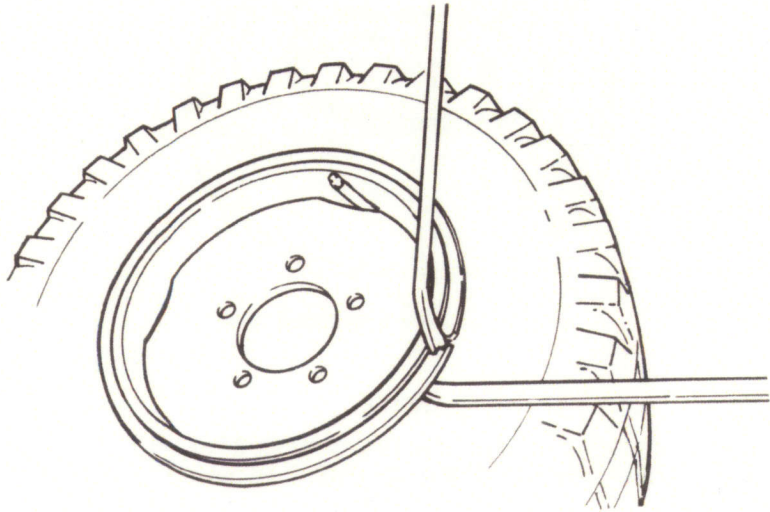

Figure 2-6 Lock ring removal
- c. Insert the tapered end of a tyre lever into the prying notch near the split in the lock ring and lever the lock ring from the rim and side ring (see Fig. 2-6).